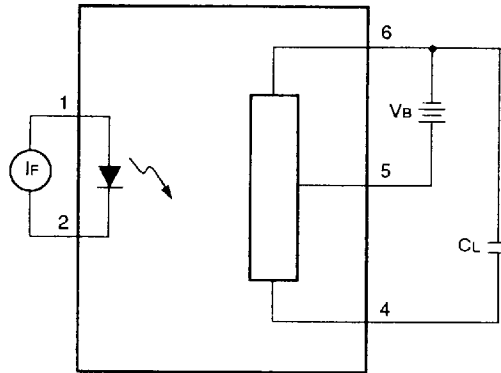

Figure 3. ATT1800 Test Circuit With External Biasing
**Table 2. MOSFET Driver Electrical Characteristics WITH External Biasing (See Figure 3.)**